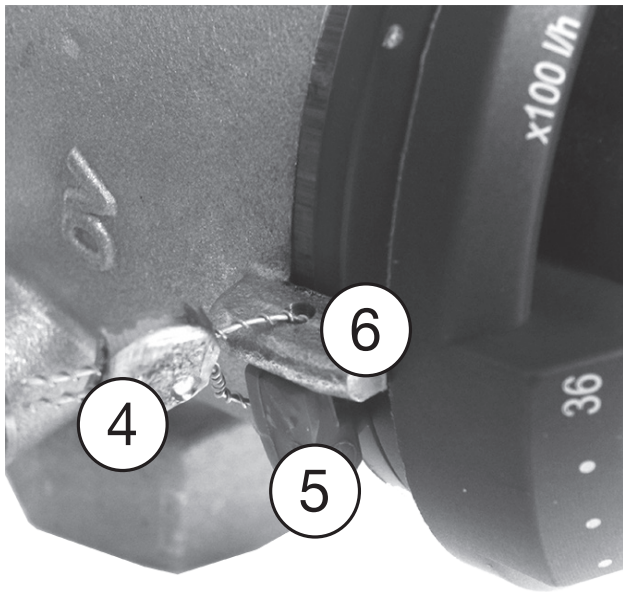

Fig. 12: Lead sealing the presetting
- 1 Remove the blocking ring (3).
- 2 Turn and press the handwheel (2) until the nominal value marking (1) points to the desired flow value (handwheel then snaps back into tothing).
- 3 Reinsert the blocking ring (3).
Optionally, the blocking ring (5) can be sealed at the nominal value marking (6) using the wire seal kit (4) (accessory, item no. 1089091) (see Fig. 12).